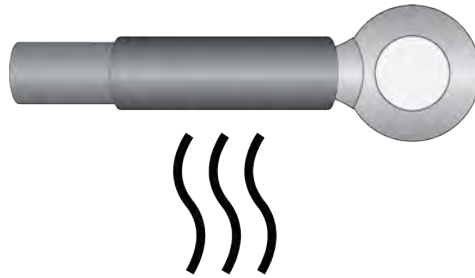

Figure 48. Heating the Heat-Shrink Tube
6. Heat the heat-shrink tube to secure it on the wire and ring terminal lug. Refer to Figure 48.